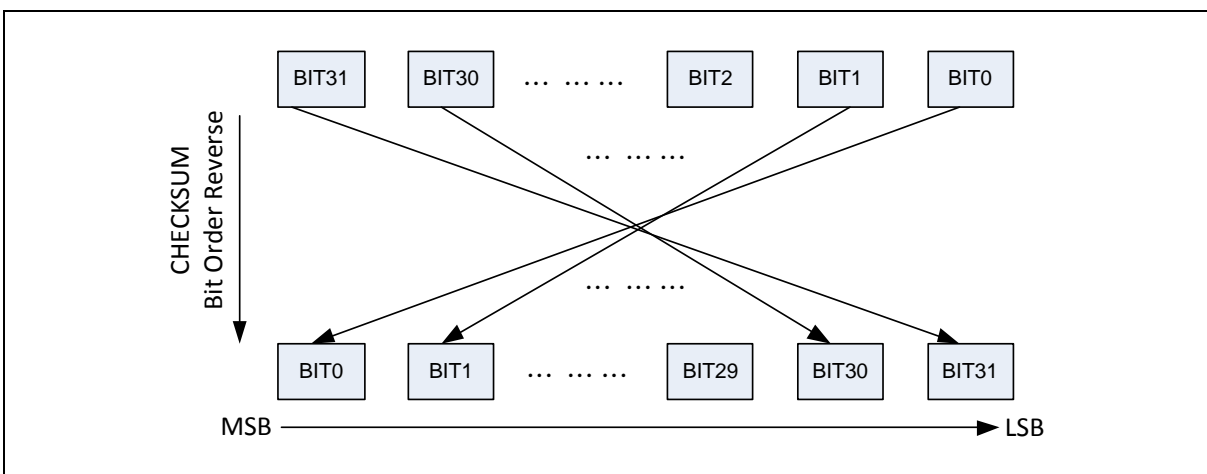

Figure 6.23-2 CHECKSUM Bit Order Reverse Functional Block
- Configure bit order reverse for CRC checksum by setting CHKSREV (CRC\_CTL[25] Checksum Bit Order Reverse). The functional block is also shown in Figure 6.23-2